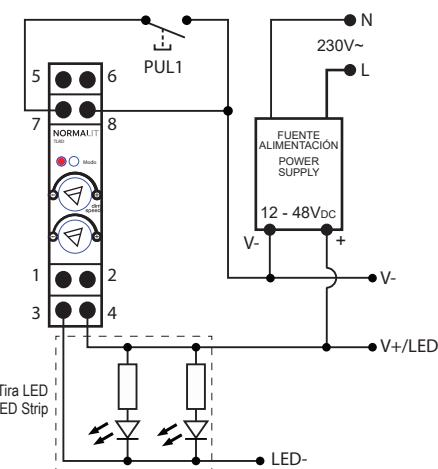
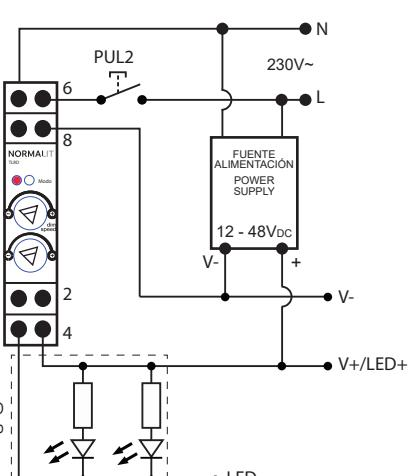

Fig. 2
Fig. 3
- Funcionamiento con Pulsador Cableado (Fig. 2 y Fig. 3):
- Operation with wired Pushbutton (Fig. 2 & Fig. 3):
- Fig. 2: Pushbutton referred to Ground.
- Fig. 3: Pushbutton referred to 230V~.
- To select the switch-on mode, press briefly the key (C) with a fine point:
- To become this mode operative, make sure that the rotary knob (B) is placed at minimum.